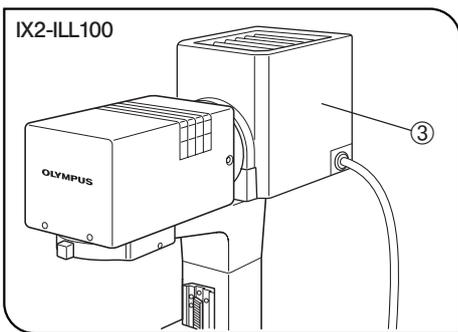

Fig. 3
6. To avoid potential shock hazards and burns when replacing the light bulb, set the main switch to "○" (OFF) then disconnect the power cord from the wall outlet in advance. Whenever you replace the bulb during use or right after use, allow the lamp housing ③ and bulb to cool before touching. (Fig. 3)